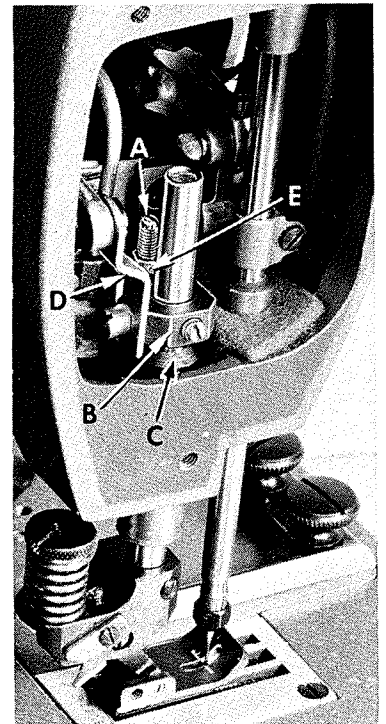

Fig. 16
Remove presser spring regulator and presser spring. Adjust long stop screw (A, Fig. 16) in presser bar guide (B) against the bed casting as required to ensure a clearance between the guide and top of presser bar bushing (C), yet so the guide is pulled up quickly by lifter lever link (D) when foot treadle is activated. Tighten lock nut (E) on stop screw.